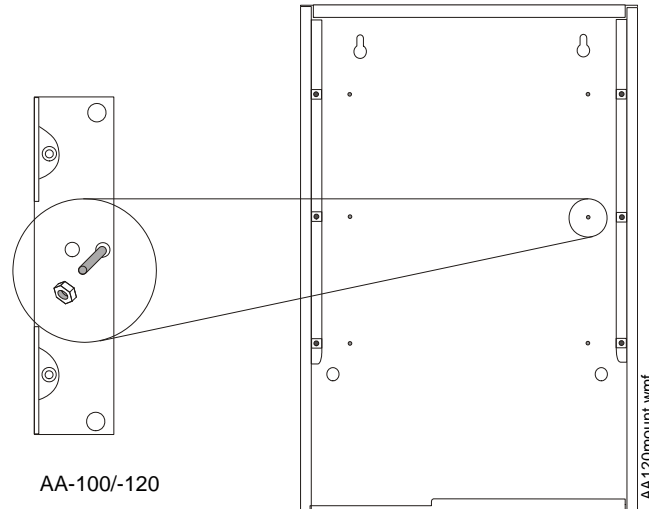

Figure 3.7 Mounting an AA-100 or AA-120
2. Install the two #8 nuts and lock washers (Figure 3.7) onto the PEM studs and tighten until secure.